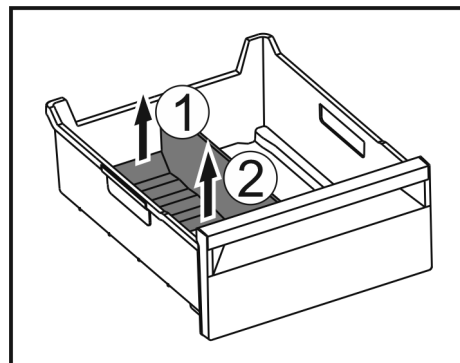

Fig. 167
- Lift the rear part of the ice compartment divider. Fig. 167 (1)
- Remove the ice compartment divider upwards. Fig. 167 (2)